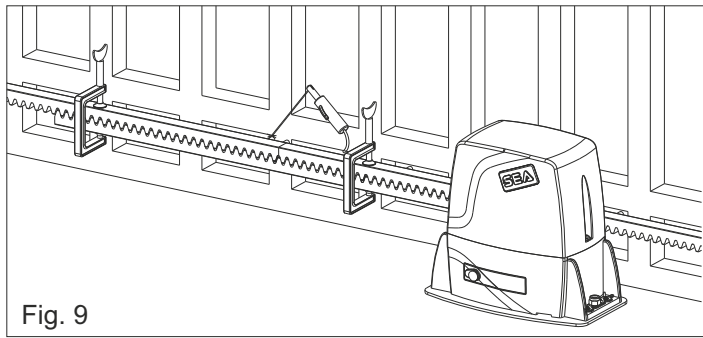

Fig. 9
5.4. Make sure that all the gear rack elements are perfectly aligned and correctly placed (teeth must be in phase). It's suggested to oppose an element to two aligned elements as shown in Fig. 9;